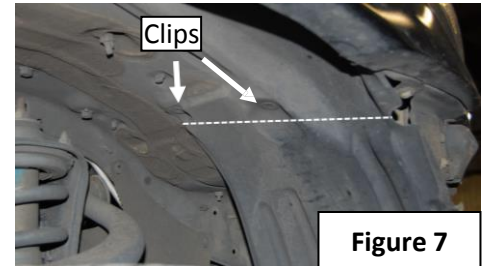

Figure 7
16. Next, trim or tuck the fender liners. To trim the liners, cut them (at your discretion) just forward of the clips that hold them in place at the top, front of the fender. The clips and general trim location are shown in **Figure 7**. To tuck the fender liners, you can pull the loose end of the liner up to the support directly under the headlights and secure them using zip-ties through existing holes.